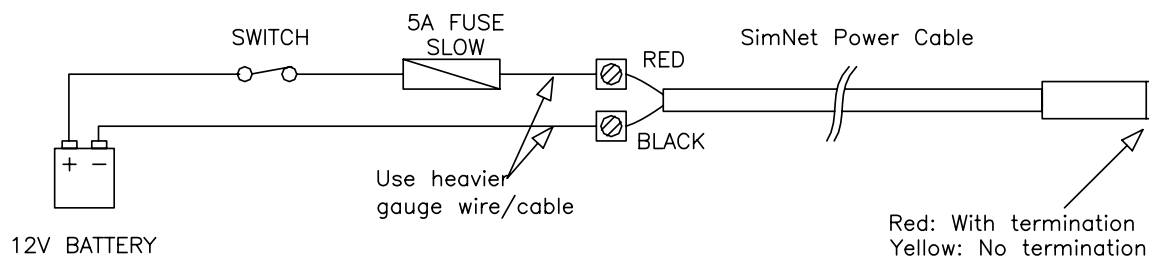

Figure 3-1 Power connection
Using a heavier gauge cable between the battery and the SimNet power cable will reduce the effect on the total network cable length (L). (See Figure 3-1 and page 16.)
You can follow the guidelines on page 15 – 18 (disregard Figure 3-1, Figure 3-2, Figure 3-3) if you are using a NMEA2000 Light Cable system with micro-C connectors and a network cable with minimum 20 AWG (0.5 sq. mm.) power wires.¹